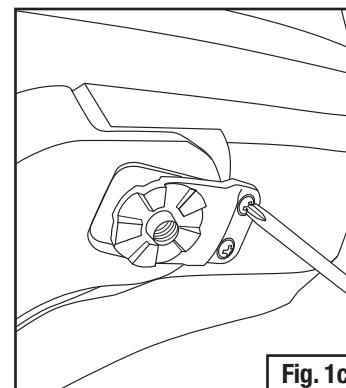

Fig. 1c
- Unscrew and remove the cam and pivot posts on each side of the headgear using an appropriately sized manual Phillips head screwdriver (Fig. 1c). (Not required for new installations on existing helmets.)